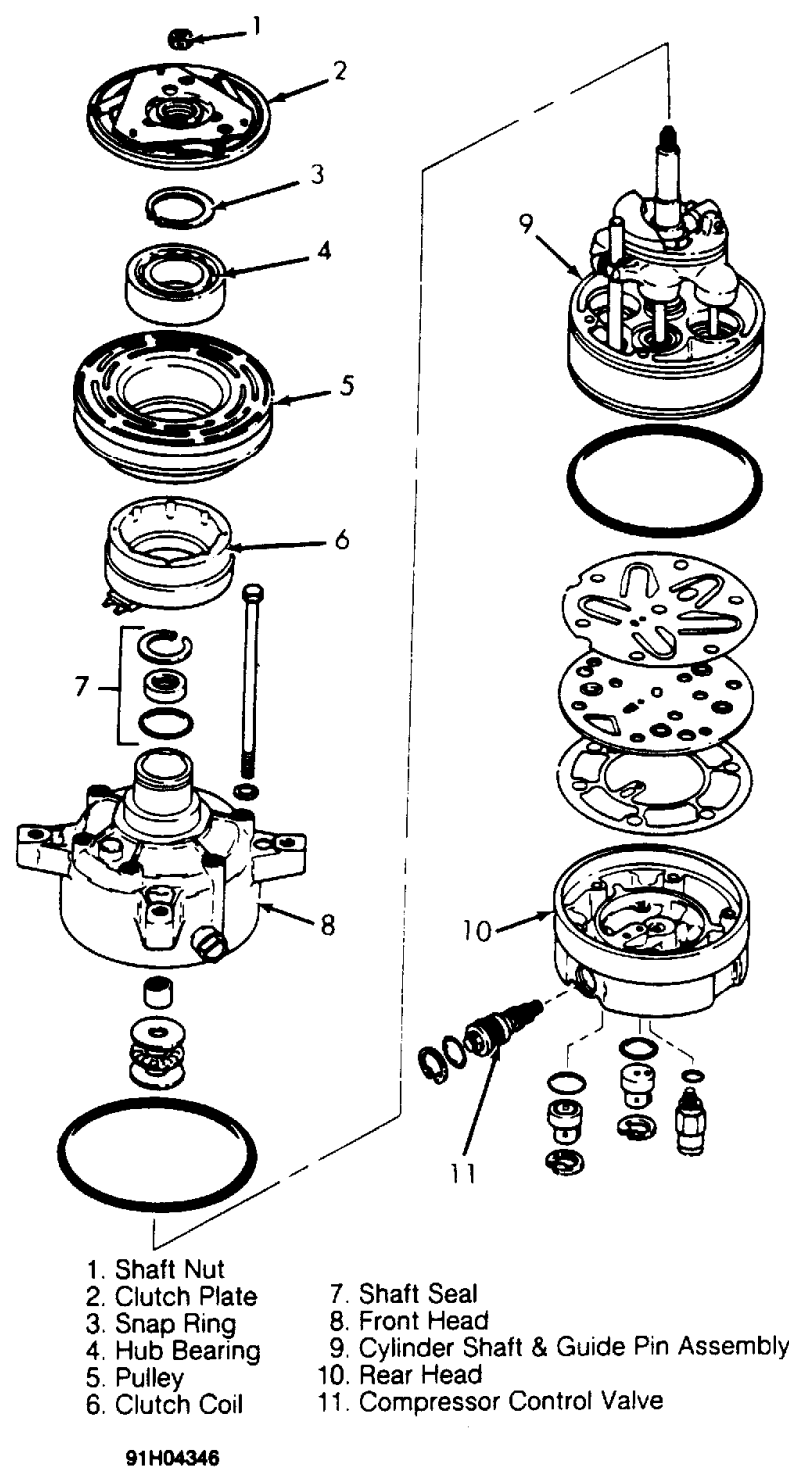

Fig. 8: Exploded View of Harrison V5 5-Cylinder Compressor
4. Install new shaft nut with a small diameter boss of nut against crankshaft shoulder. Use Thin Wall Socket (J-9399) and Clutch Hub Holder (J-25030). Tighten shaft nut to 96-192 INCH lbs. 11-22 N.m). Spin pulley rotor by hand to ensure rotor is not rubbing on clutch drive plate. See Fig. 8.